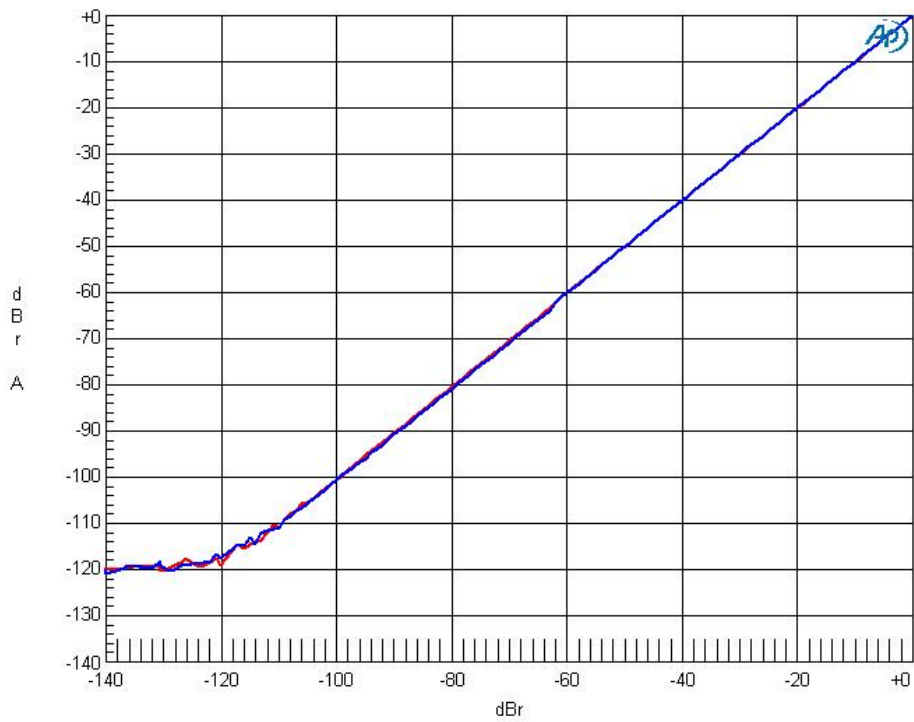

Figure1-6.Linearity (fin=1kHz)
- Figure 1-6. Linearity (fin=1kHz)